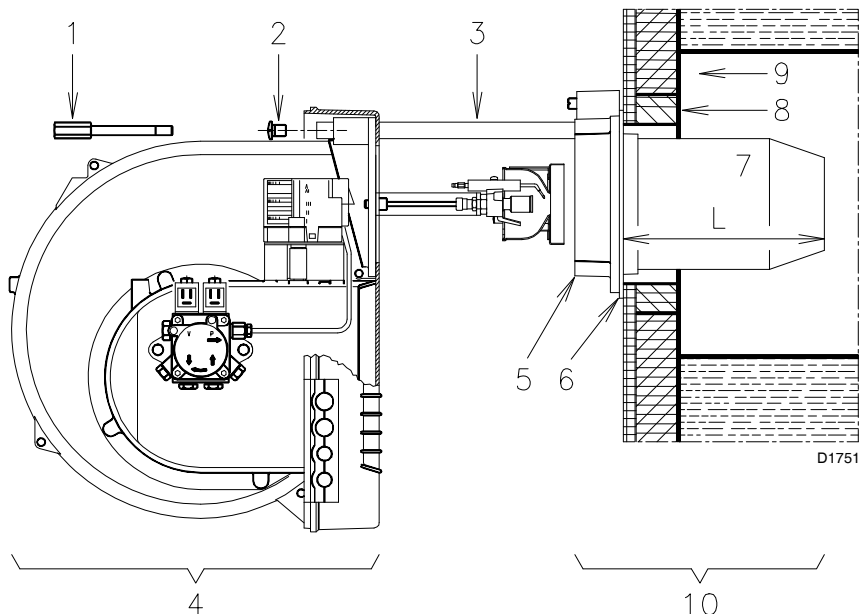

Fig. 11
- If it proves necessary to change the nozzle with the burner already fitted to the boiler, open the burner on the slide bars as shown in Fig. 11 page 12, after having mounted the extensions 16)(Fig. 6 page 9), and proceed as described above.